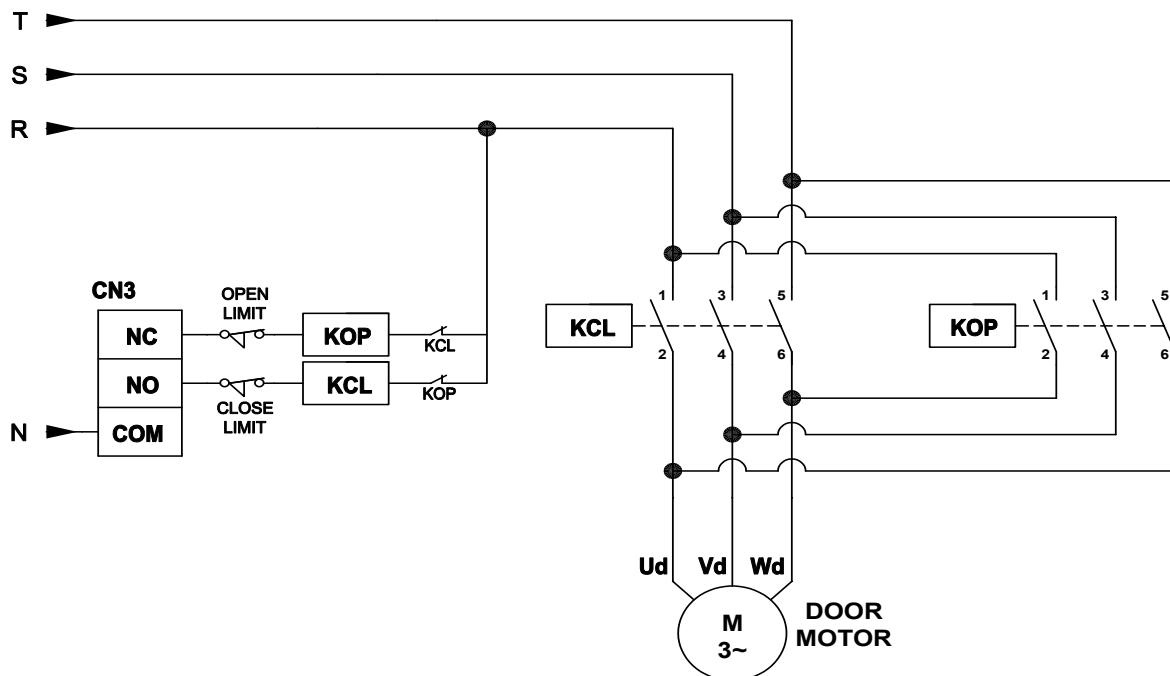

Figure 17.0 - Three-Phase Automatic Door Connections
The terminals of operating the Three-Phase Automatic Door are wired and connected as illustrated in Figure 17.0.
- The Normally Open (NO) terminal (CN3) is responsible for closing the Three-Phase Automatic Door.
- The Normally Closed (NC) terminal (CN3) is responsible for opening the Three-Phase Automatic Door.
- The terminals of the closing and opening limit switches must be combined into the Three-Phase Automatic Door operation circuit as illustrated in Figure 17.0.